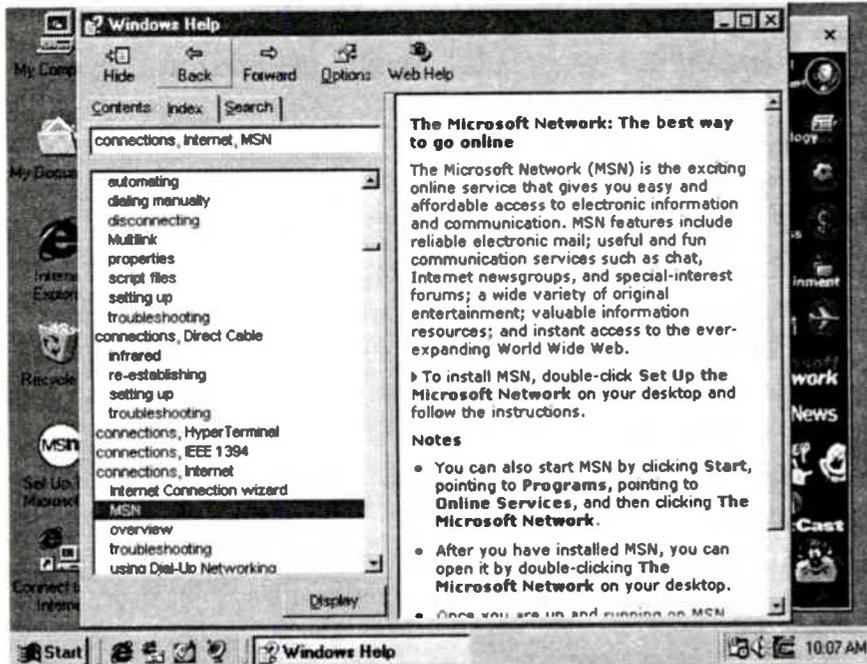

Figure 1.
**Step 1.** Open up the Help option from the Start menu. Click on the Index tab and display the topics for "connections, Internet." Within the topics listed, choose "The Microsoft Network: The best way to go online." Look at Figure 1 to make sure you're accessing the correct information in Help.